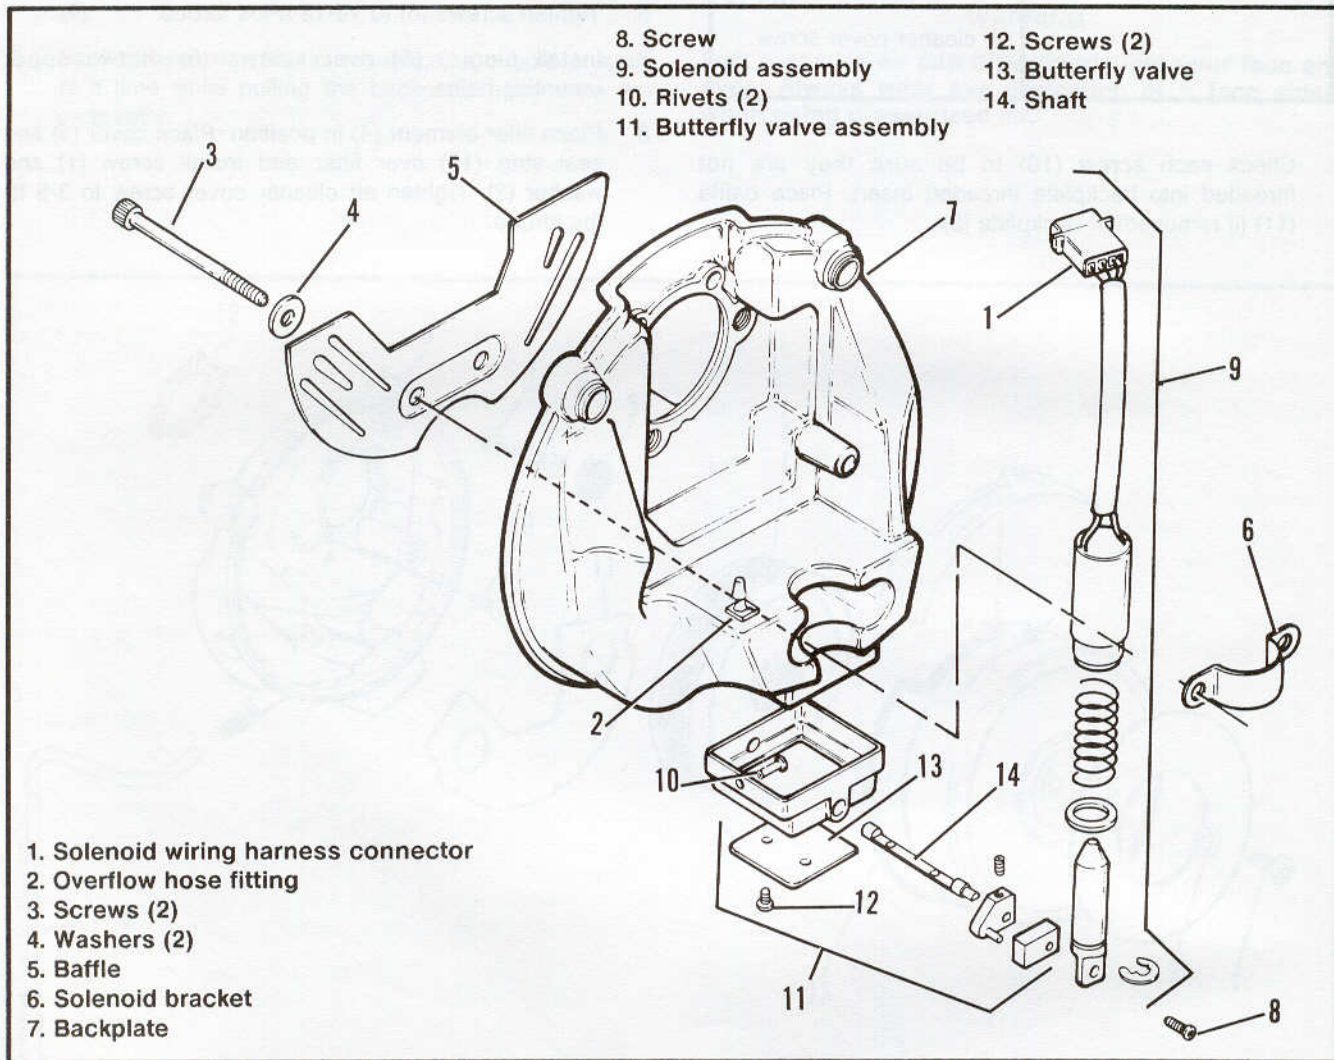

Figure 4-17. Air Cleaner Backplate Assembly - 1992 California Models
1. See Figure 4-17. After performing steps 1 thru 5 under REMOVAL, disconnect the solenoid wiring harness